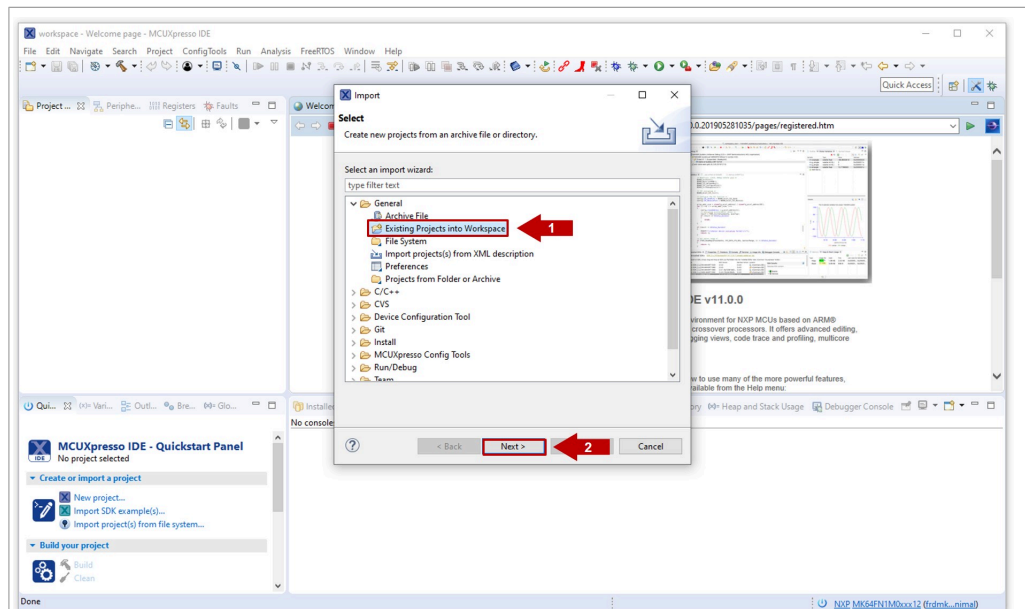

Figure 28. Import a project wizard (II)
2. In the import wizard menu, select import **"Existing Projects into Workspace"** from the *General* folder as shown in Figure 28: